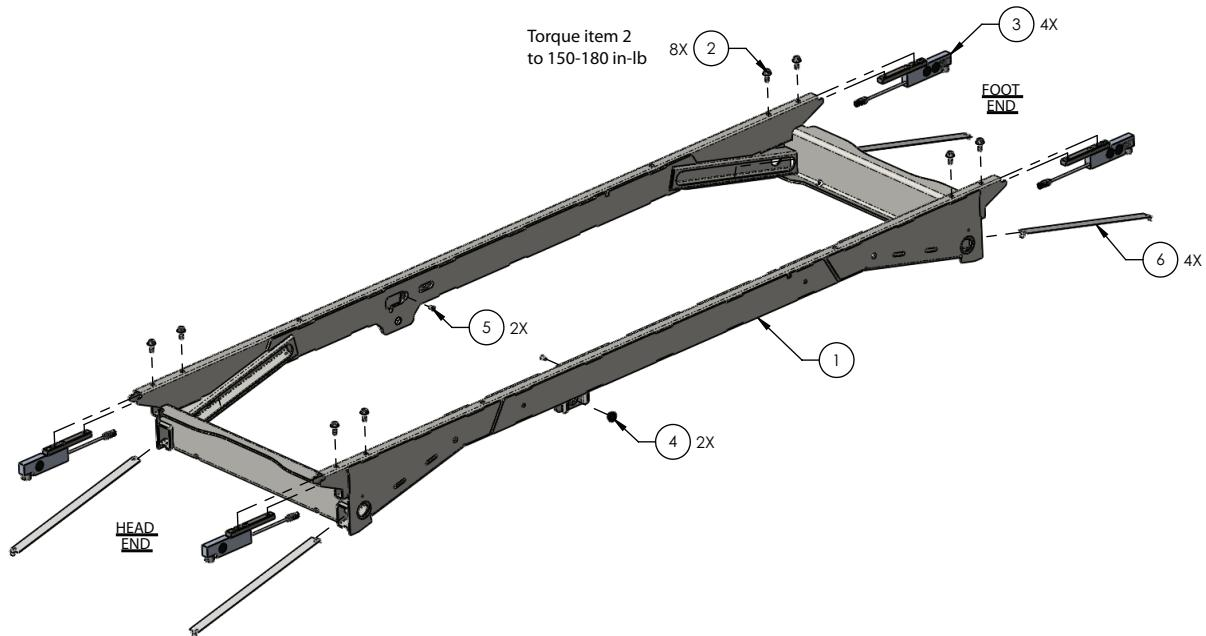

**Figure 36 – Load cell assembly replacement**
5. Using a small flat head screwdriver, remove and save the four caster cover screw caps (6) (Figure 36).
6. Using a #2 Phillips screwdriver, remove and save the four screws (7) and washers (5) that secure the caster cover (8) to the base frame weldment (Figure 36). Remove and save the caster cover.
8. Using needle nose pliers, remove and save the rue clip (23) and pin (22) from the top of the load cell linkage (21) (Figure 36).
11. Using a #2 Phillips screwdriver, remove and save the two screws (7) that secure the inspection cover (15) to the base frame weldment (Figure 36). Remove and save the inspection cover.
12. Using a #2 Phillips screwdriver, remove and save the two screws (7) that secure the scale board assembly (12 (head end), 13 (foot end)) to the base frame weldment (Figure 36). Remove and save the scale board assembly.